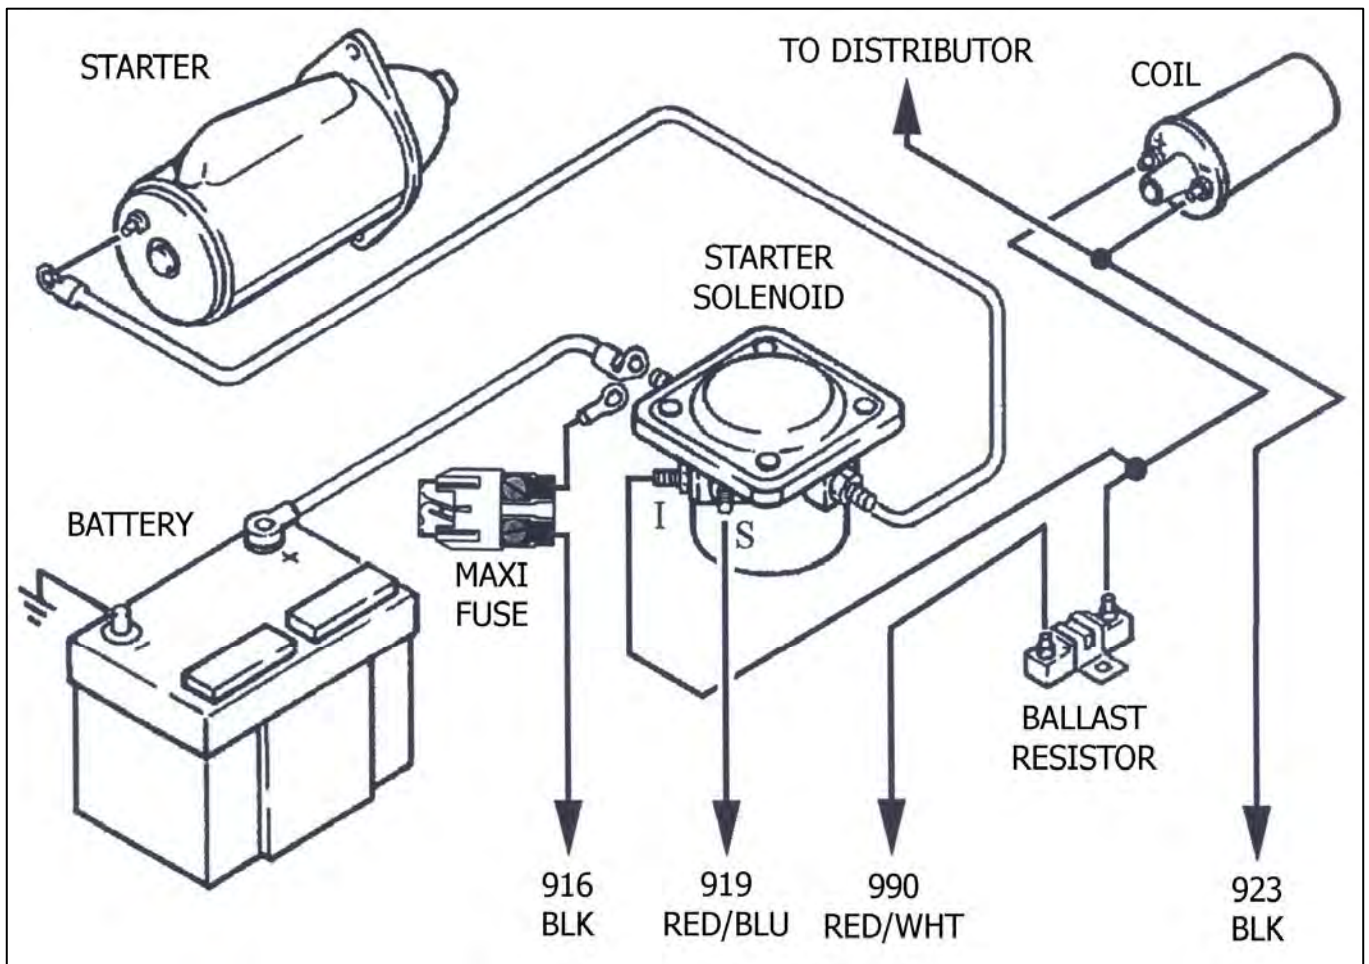

Figure 7-4 Ford Ignition (Start/Run) System
7.5 Ford Ignition (Start/Run) System. See Figure 7-4.
- 7.5.7 Be sure the large, red battery cable is connected from the other side of the Starter Solenoid to the Starter Motor. **See Figure 7-4**